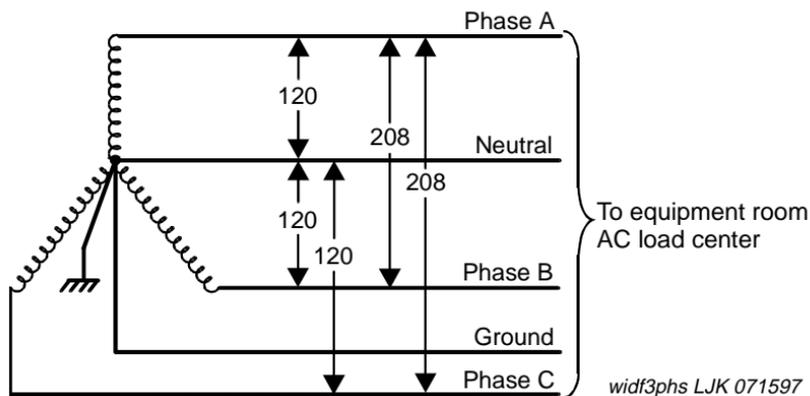

Figure 17. Three-Phase, 120/208 VAC, 60 Hz Source
- Three-phase, 5-wire, 208 VAC. See Figure 17.